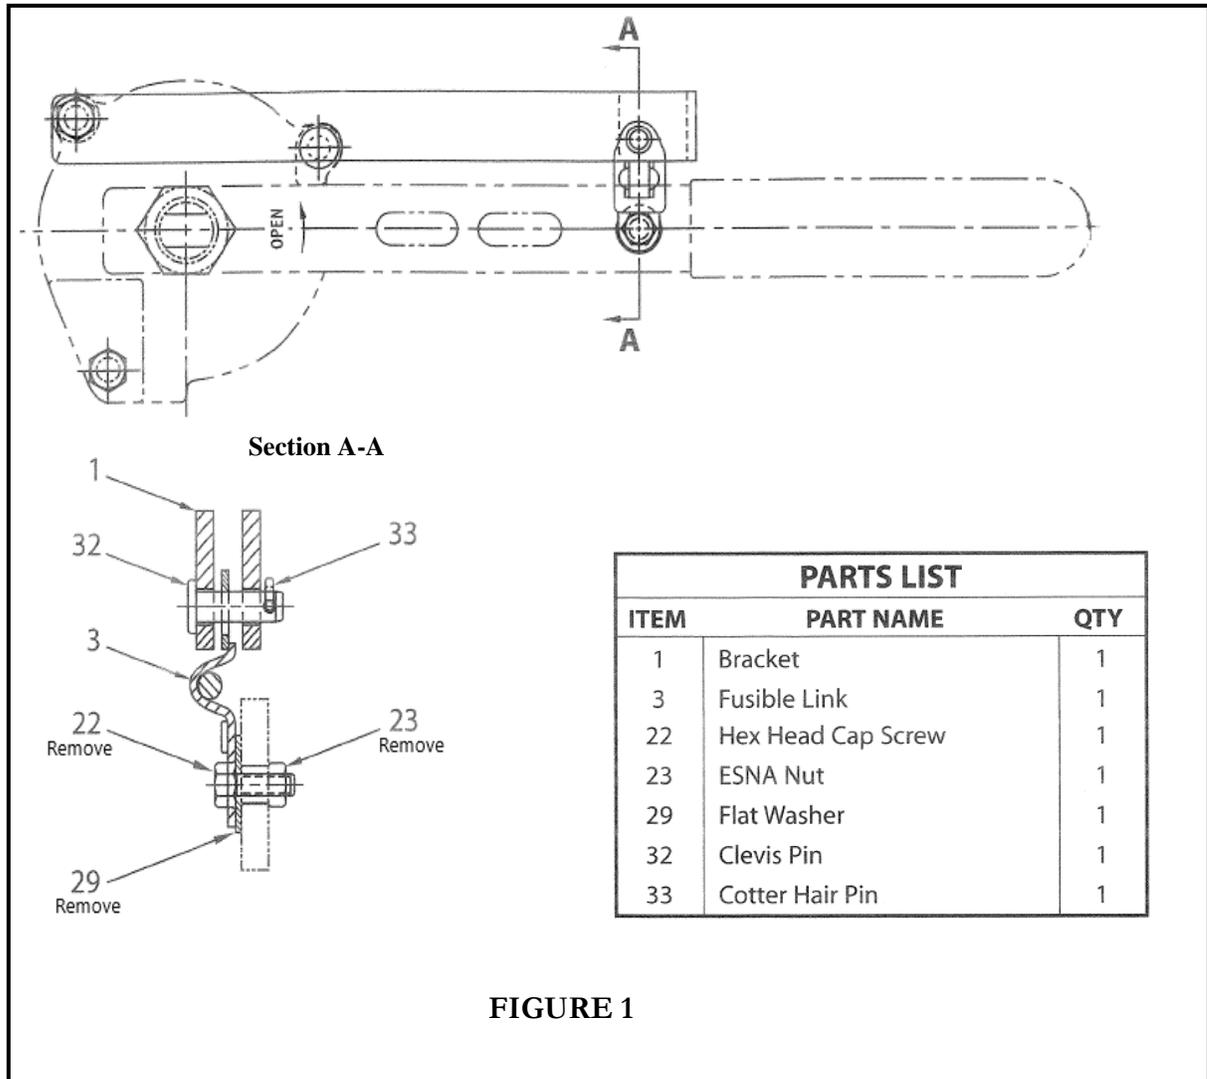

FIGURE 1
5. The current configuration is shown in Figure 1. Retrofit entails removing and replacing parts 22, 23 and 29, which connect the fusible link to the spring-loaded handle.